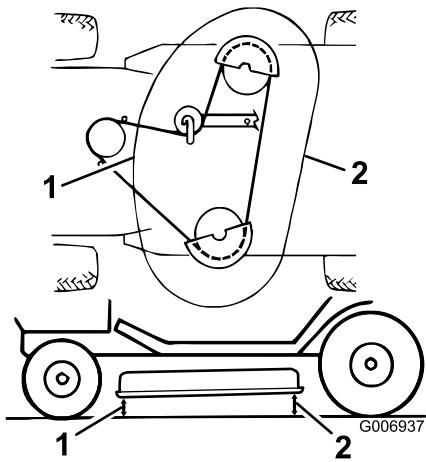

Figure 49
- Check the front-to-rear slope by measuring between the bottom of the mower (front center and rear center) and the flat surface (Figure 49). If the front is not within a range of 1/8 to 3/8 inch (3 to 10 mm) lower than the rear, an adjust it.